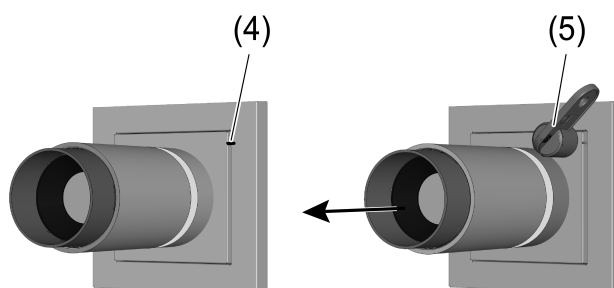

Figure 3: Dismantling a light attachment (with interlock)
- Place the magnet (5) at the level of the marking (4) at the light attachment (Figure 3).